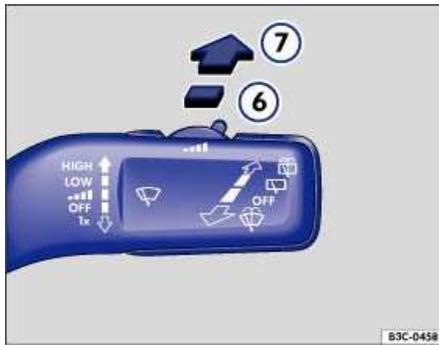

Fig. 47 Windshield wiper and windshield washer switch lever: Turning on the rear wiper.
- Push the lever forward to position ⇒ Fig. 47 (6) The wiper will wipe the rear window about every 6 seconds.